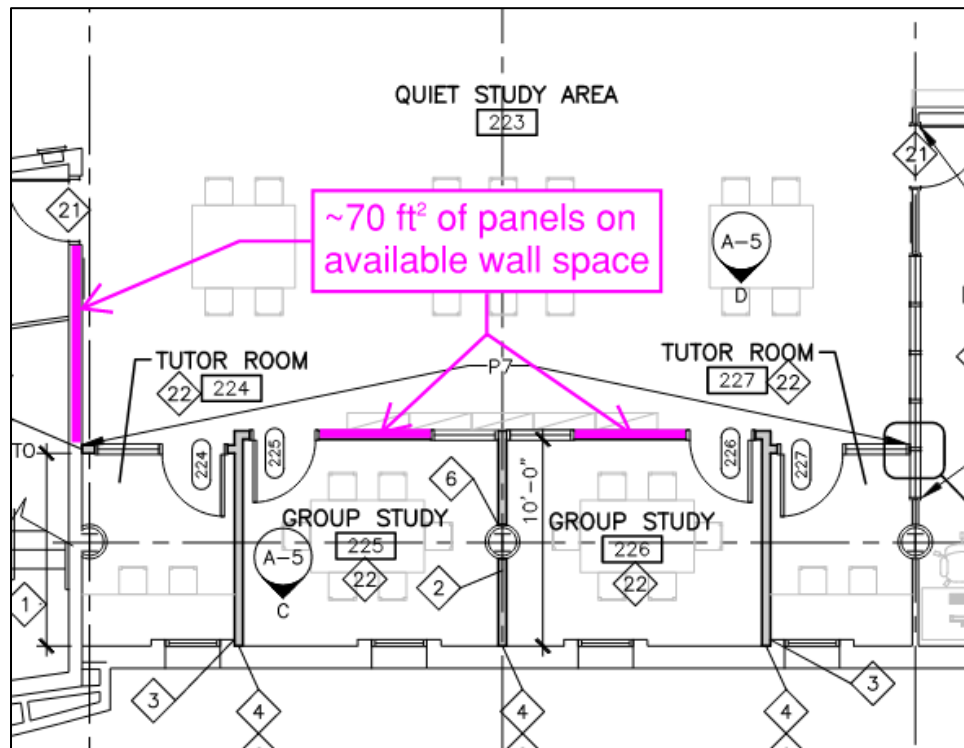

Figure 6: Recommended Wall Treatment Locations for Option #2 in the Quiet Study Area
- In addition, install approximately 70 ft² of 2" thick acoustical wall panels with a minimum Noise Reduction Coefficient (NRC) of 0.90 on the available walls in the Quiet Study. These panels should be mounted from 3 ft above the floor to 7.5 ft as shown in Figure 6. Suitable products include the following: